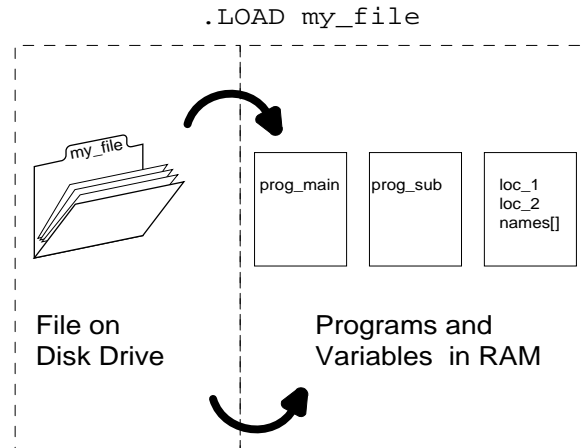

Figure 4-1. LOADING a Disk File
The controller cannot use the programs and information stored in disk files until they are loaded into system memory (RAM). The LOAD command takes a copy of the contents of a disk file and places it in RAM. Figure 4-1 shows the command:
**Figure 4-1** summarizes the various delete commands.